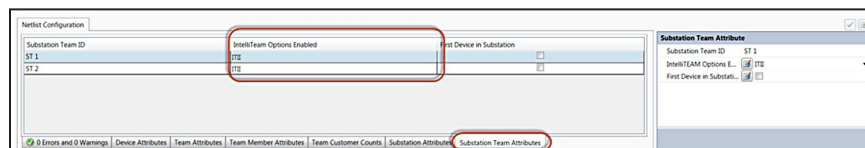

Figure 9. The Substation Team Attributes>IntelliTeam Options Enabled setting.
- STEP 5.** For the **IntelliTeam Options Enabled** setting on the **Substation Team Attributes** tab, select the **ITII** option, as shown in Figure 9.